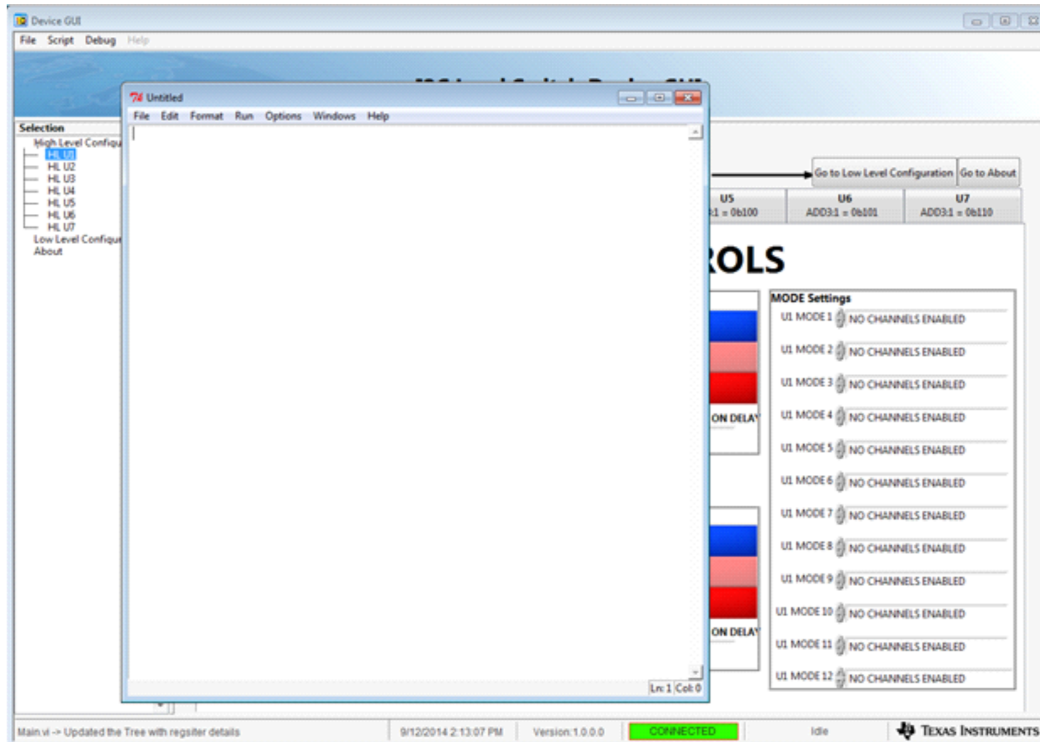

Figure 13. Python Script Window Pops Up
- (C) A Python scripting window should be launched named Untitled as shown in Figure 13.